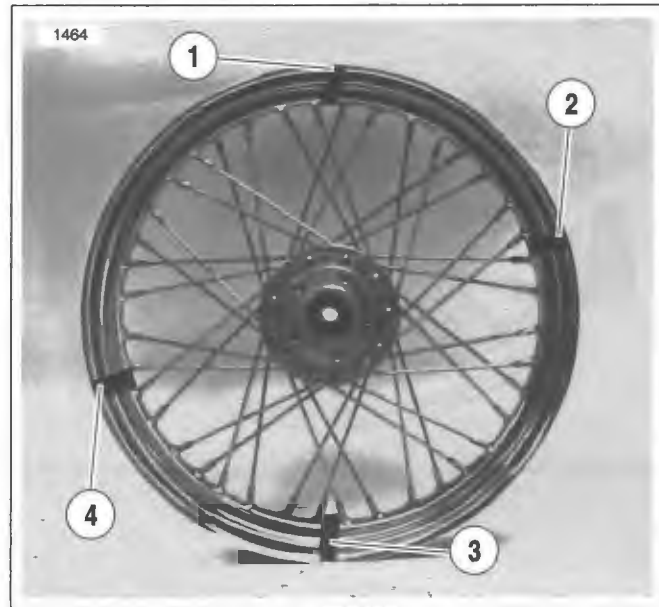

Figure 2-40. Marking Spoke Groups
1. See Figure 2-40. Divide the wheel spokes into four groups of ten and mark the center of each group with a piece of tape. The groups should be directly across from one another and approximately 90° apart.